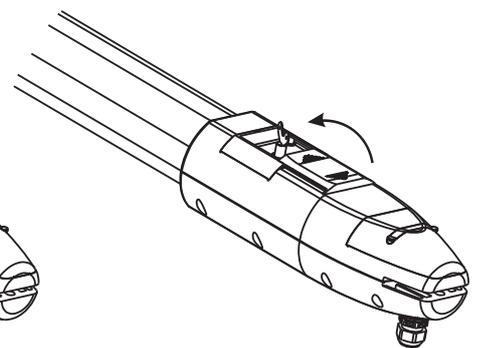

FIGURE 31
- C. Use the release key to turn the pin anti-clockwise to the end. See Figure 31